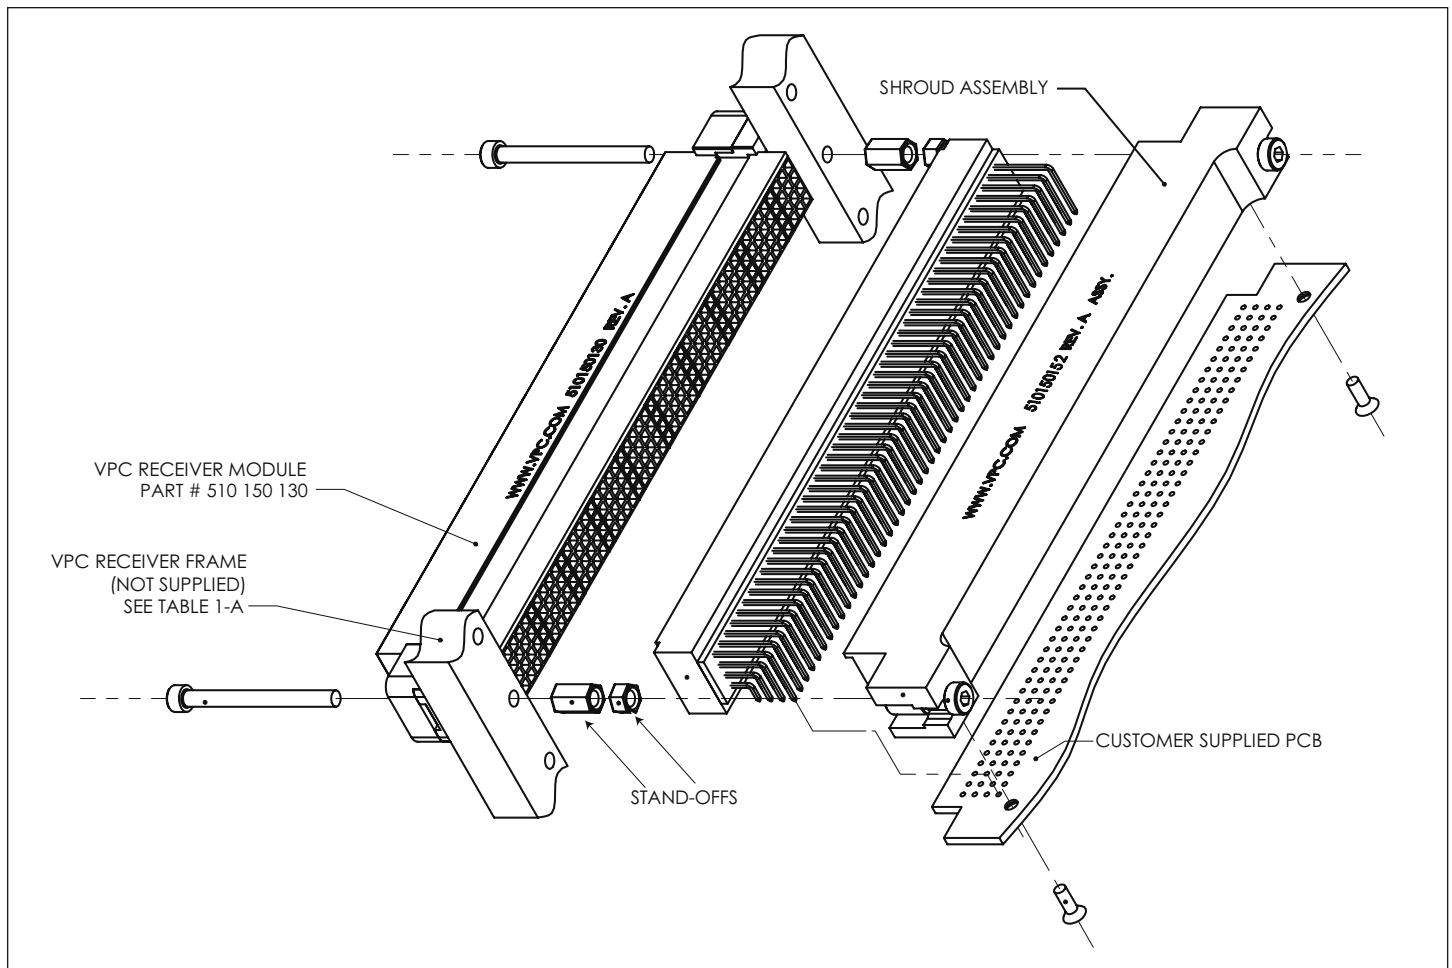

Figure 15-A. A $\frac{3}{32}$ Allen Wrench is included with Part # 510 150 152.
5. Align the PCB shroud assembly's two threaded retaining sockets with the 4-40 x 1/4" module retaining screws with stand-offs installed (**See Figure 15-A**). Ensure that Pin 1 on the adapter corresponds with Pin 1 on the module.